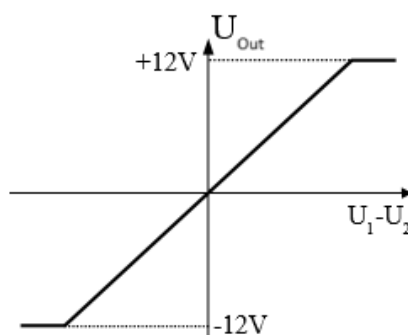

Figure 3: DC characteristics of the operational amplifier
The operational amplifier must be powered in order to function properly. Symmetrical supply voltages relative to 0V are usually used ($\pm 12V$, $\pm 9V$, or $\pm 5V$), but in many cases, it is simpler and cheaper to use asymmetrical supplies (e.g. $+5V$ and $0V$). The data sheet of the amplifier indicates the possible supply voltage modes! In general, symmetrical supply is used, but if an amplifier also operates from an asymmetrical voltage, this is indicated separately (single supply mode). A general operational amplifier does not operate with asymmetrical supply (e.g. $+9V$)! The supply voltage is not always indicated on the wiring diagrams! Of course, the output voltage can only vary within the supply voltages as limits. The operational amplifier also amplifies direct current. Its DC characteristics are, due to the aforementioned limitations, as shown in Fig 3.
The range where equation (1) holds is called the linear mode. Outside this range, the operational amplifier goes into saturation, its output voltage becoming independent of the input voltages. If the voltage gain (A_u) is large, the linear range is very small. For example, for the characteristic shown in Fig 3, if $A_u = 10^6$, then $|(U_1 - U_2)| < 12\mu V$, i.e. only an input voltage difference less than $12\mu V$ will give a signal at the output less than the supply voltage. The transfer function is therefore very steep.